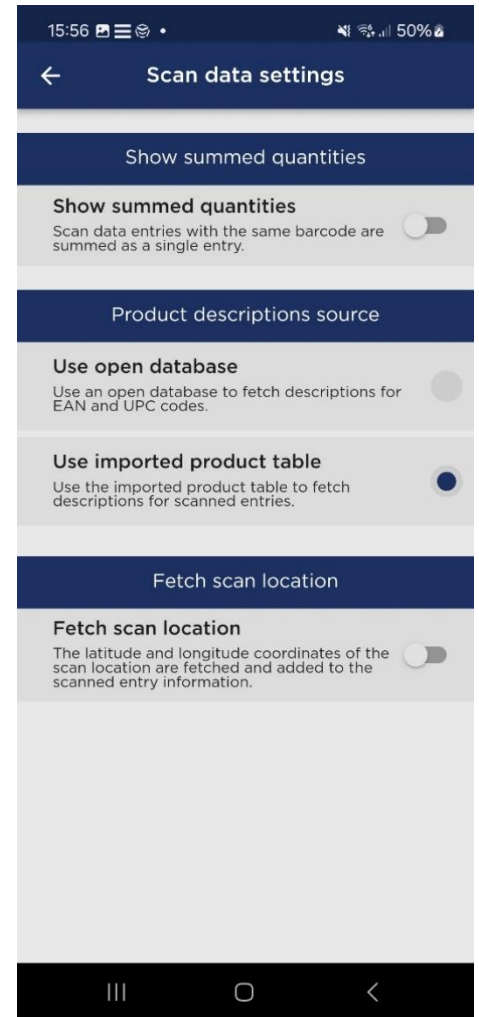

Figure 8-3: The Scan Data settings page.
**Scan Data Settings Button (9):** Opens the *Scan Data* settings page (see Figure 8-3), where you can configure how the scan data is displayed and managed.